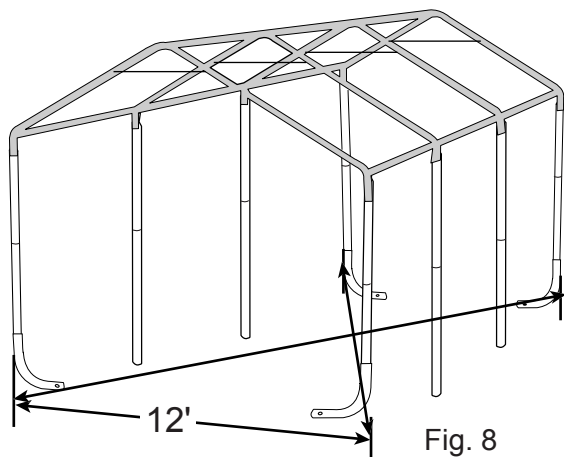
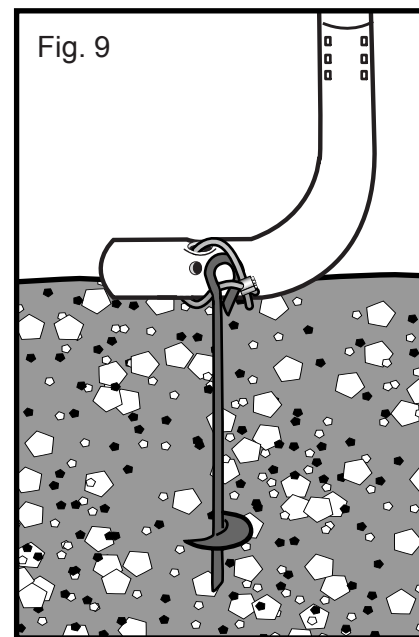

Fig. 8
Fig. 9
Place the frame in its final position and check that it measures 12' in width and is square across opposite corners. See Fig. 8 below. Screw the (4) 15" temporary augers into the earth at the four corners. Secure with cable and clamp as shown in Fig. 9.